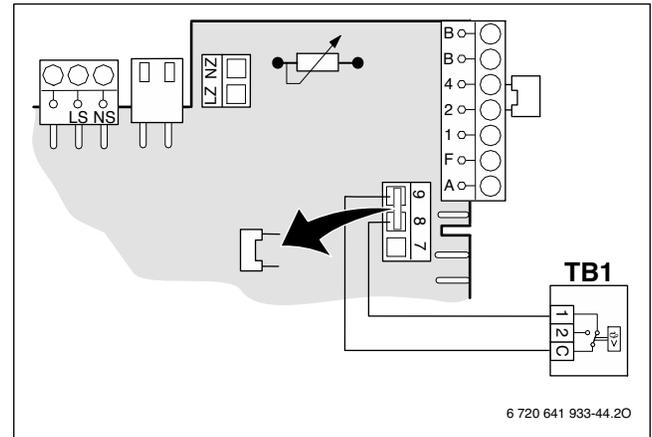

Fig. 47 Electrical wiring TB1
- ▶ Connect the leads labeled SWITCH CONTACT (yellow) to the T temperature guard (→ Fig 47, page 47) on the Heatronic.